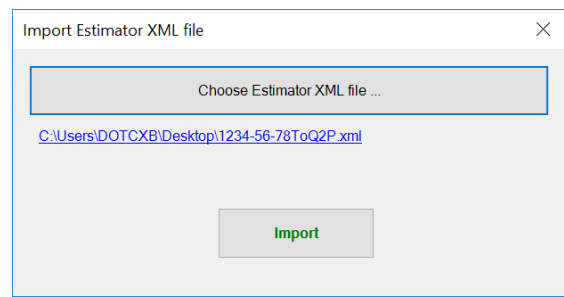
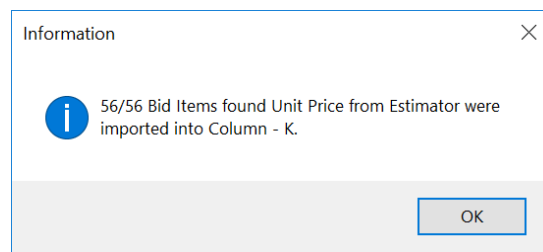

Figure 11.7 File path of selected XML file (typically in project folder).
Figure 11.8 “From Estimator XML” command.
4. Confirm the file, select “Import” (Figure 11.7), then select “OK” on the next window (Figure 11.8).